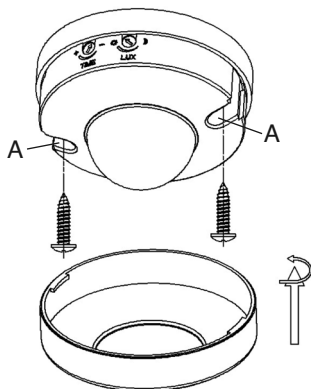

FIGURE 1
- 2) Remove top cover by turning anti-clockwise as per FIGURE 1.
- 3) Refer FIGURE 1. Use holes A on the sensor housing to mark the position of the fixing screws once the mounting position has been established.